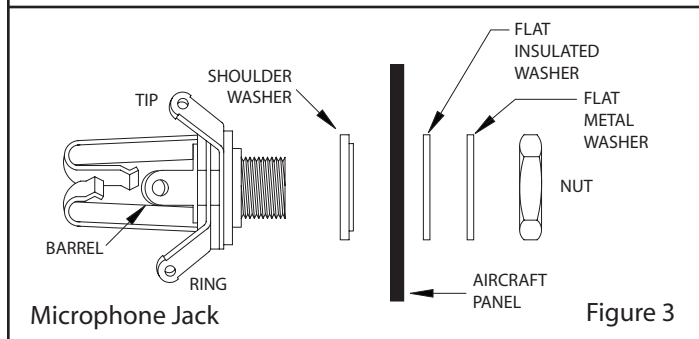

Figure 3
3. Drill 1/2" diameter holes for mic jacks and install with insulating washers supplied. (See Figure 3).